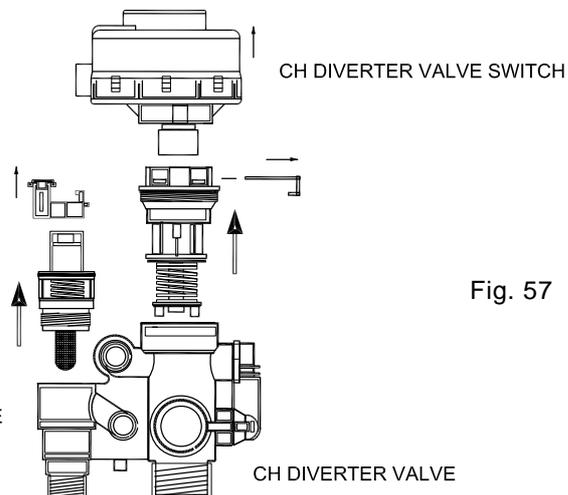

Fig. 57
7.21.2 Detach the electrical plug and remove the retaining clip (Fig.57).
7.23 TO REMOVE/REPLACE C.H. DIVERTER VALVE (fig. 57).
7.24.1 TO REMOVE/REPLACE DHW DIVERTER VALVE (fig. 57).